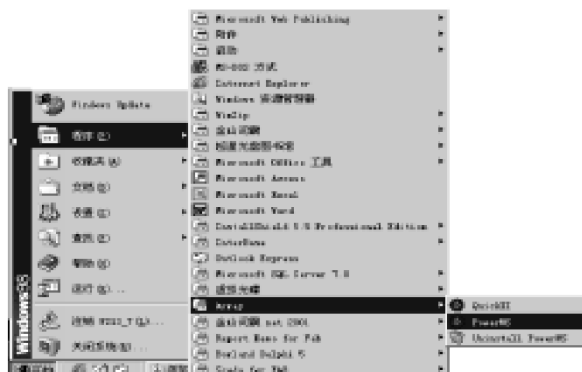
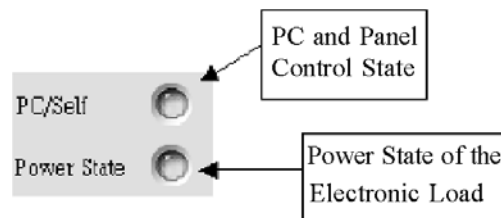

Fig. 3-8 The System Start Interface
Fig.3-9 System Start Diagram
3.2.1 In Fig. 3-8, click the mouse on “Start | Program | Array” and then “electronic”. The initial program start up window will be displayed in fig 3.9